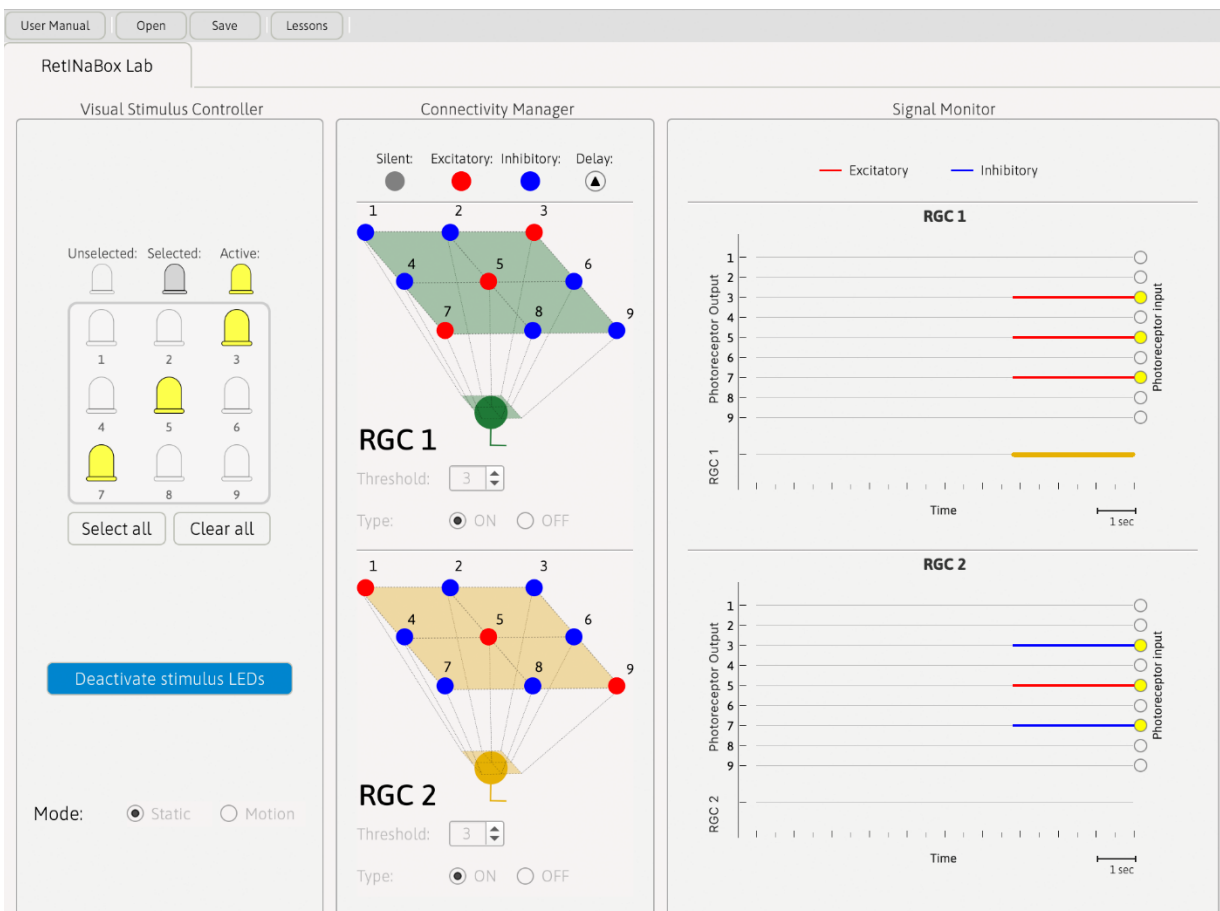

Figure 37. The main RetINaBox graphical user interface.
- c. You will now see the main RetINaBox graphical user interface (GUI; **Fig. 37**). The software contains 4 menu items (the GUI can be maximized to full screen):